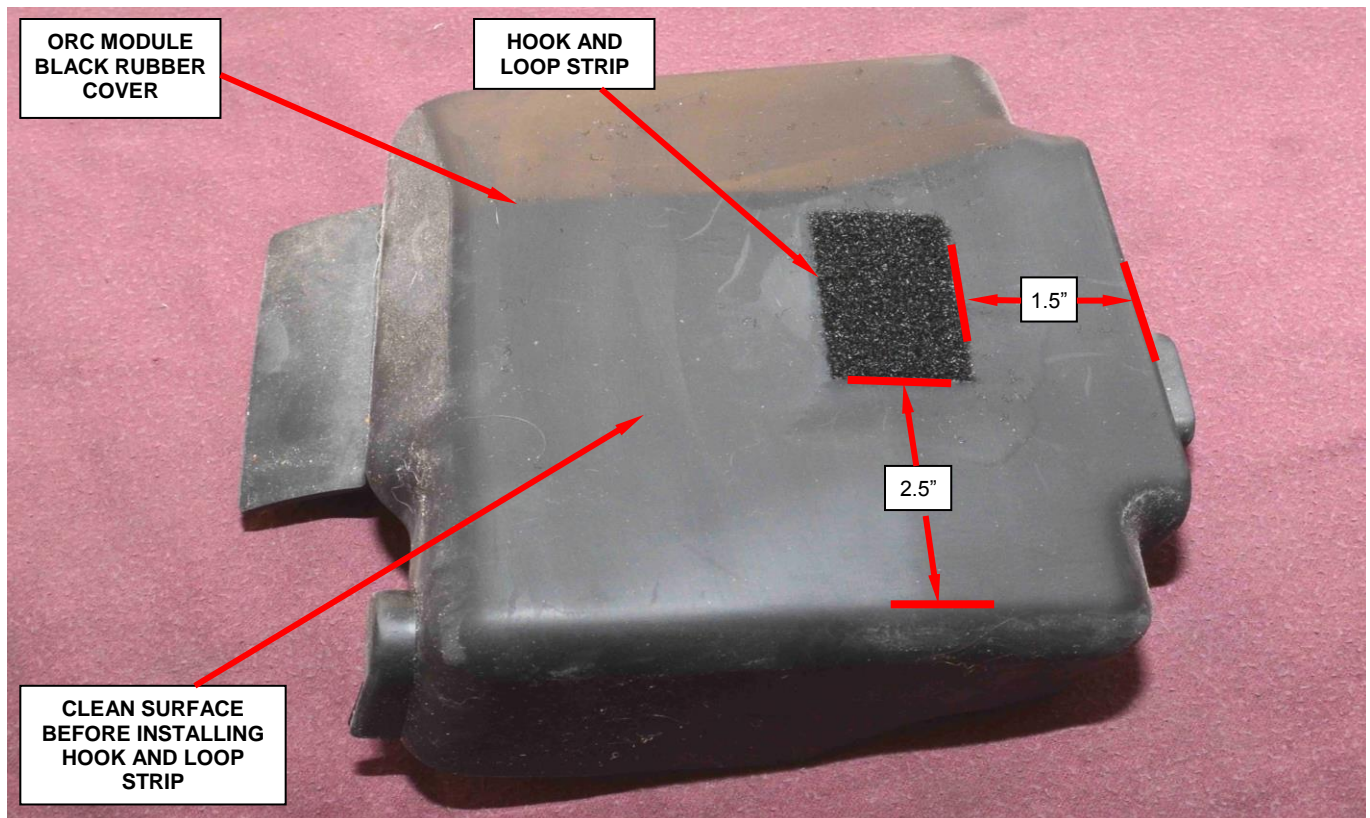

Figure 6 – Install Hook and Loop Strip to ORC Module Black Rubber Cover
16. Using glass cleaner or equivalent, clean the outside surface of the ORC module black rubber cover (Figure 6).
18. Remove the adhesive release sheet from the hook and loop strip and stick the hook and loop strip to the outside of the ORC module black rubber cover, as shown in Figure 6. Set cover aside for later installation.